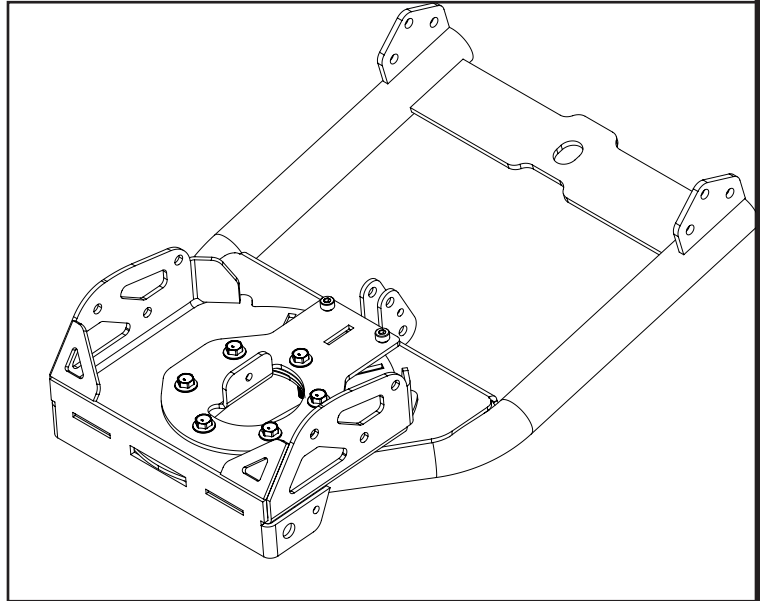

Figure 4
4. Figure 4 shows the Warn plow push tube assembly. The push tube assembly consists of the push tube weldment, the swivel base which a plow blade connects to, a bearing plate and a top retaining plate which constrains the swivel base.